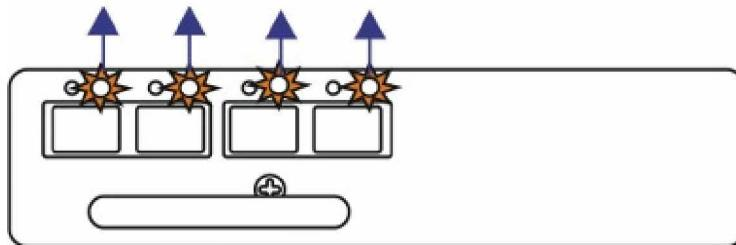

Figure 3-5: Host Connection Module LEDs
The subsystem has four (4) FC ports; two (2) ports are on each host connection module. Each of these FC ports has two (2) LEDs on the top. The right LED is to indicate the status of each port (see *Figure 3-5*) while the left LED is nonfunctional and will remain unlit. When the right LED illuminates static green means the FC loop is linking; flashing green means traffics are going through the link. When the right LED is unlit, that indicates the loop is not linking.